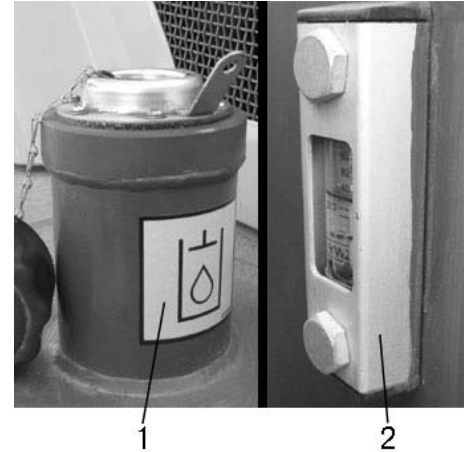

Figure 3-2
3.4.1.2 Check the hydraulic oil level (figure 3-2)